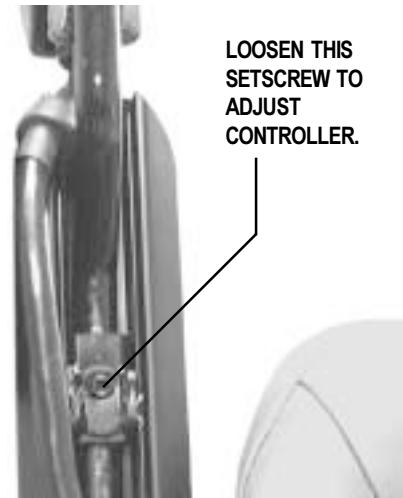

Figure 10. Controller Extension
2. Slide the controller into or out of the armrest to the desired position. See figure 10.